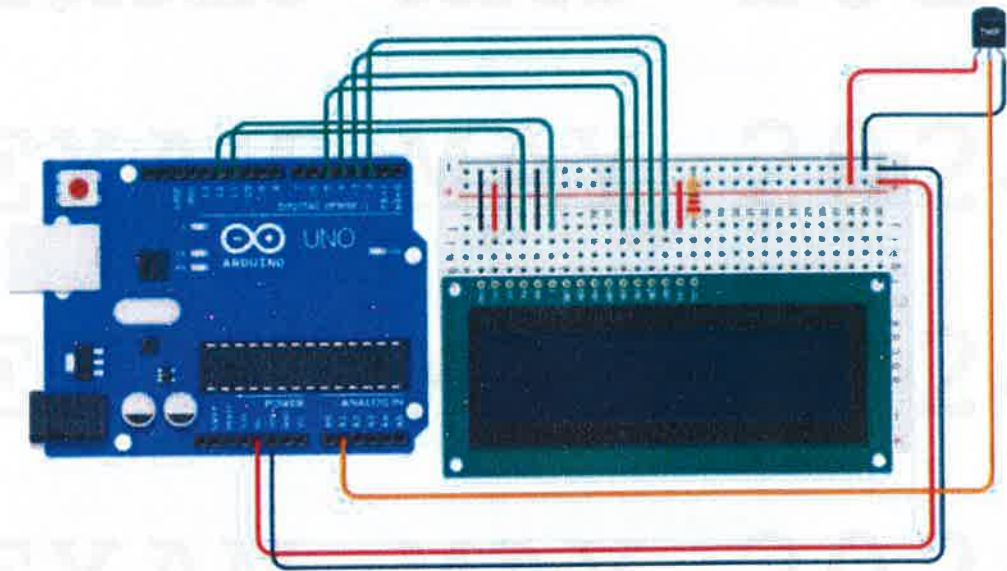

FIGURE Q2: Temperature Sensing System with TMP36
2. a. You are tasked with designing a temperature sensing system using an Arduino IoT node, as shown in **FIGURE Q2**. The system incorporates a **TMP36** temperature sensor, which provides raw temperature values ranging from 0 to 1023. Your objective is to integrate this sensor into the IoT node (breadboard) to accurately detect and monitor temperature changes in a given environment. Analyze this design and ensure the system operates effectively for its intended application.
- b. Create a well-defined and appropriately labeled schematic diagram based on **FIGURE Q2**.